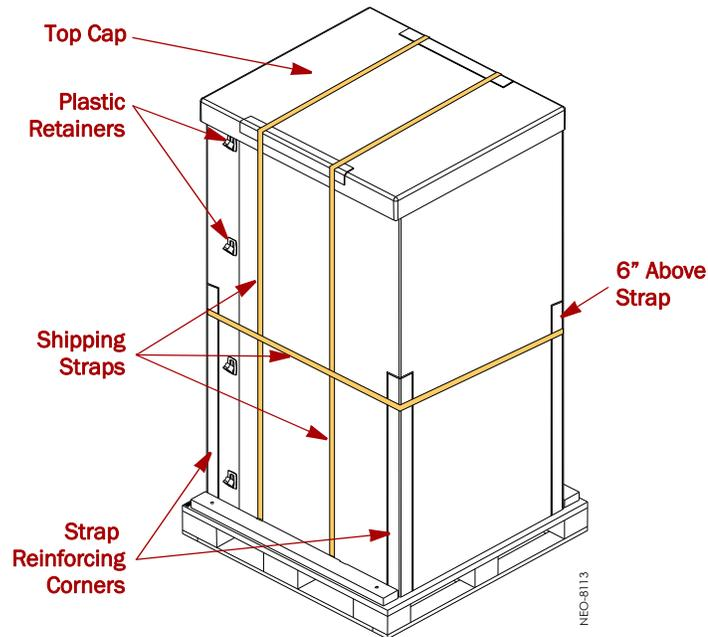

Figure B-8: Library Packaging Components
- d. Add the two (2) **pads on top** of the library.
2. Add the outside packaging (Figure B-8).
- b. Insert and latch each of the eight (8) **plastic retainers** (four each on opposite corners).
- d. Position the two (2) short **reinforcing corners** on the sides of the top cap.
5. Position the four (4) long **reinforcing corners** at each corner of the box (Figure B-8).